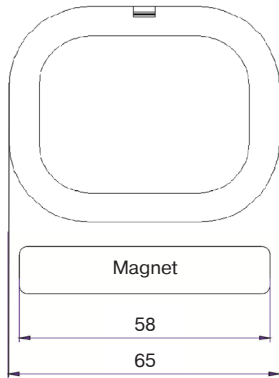

Figure 2
8.2 Locate the Detector and magnet as it is shown in figure 2.